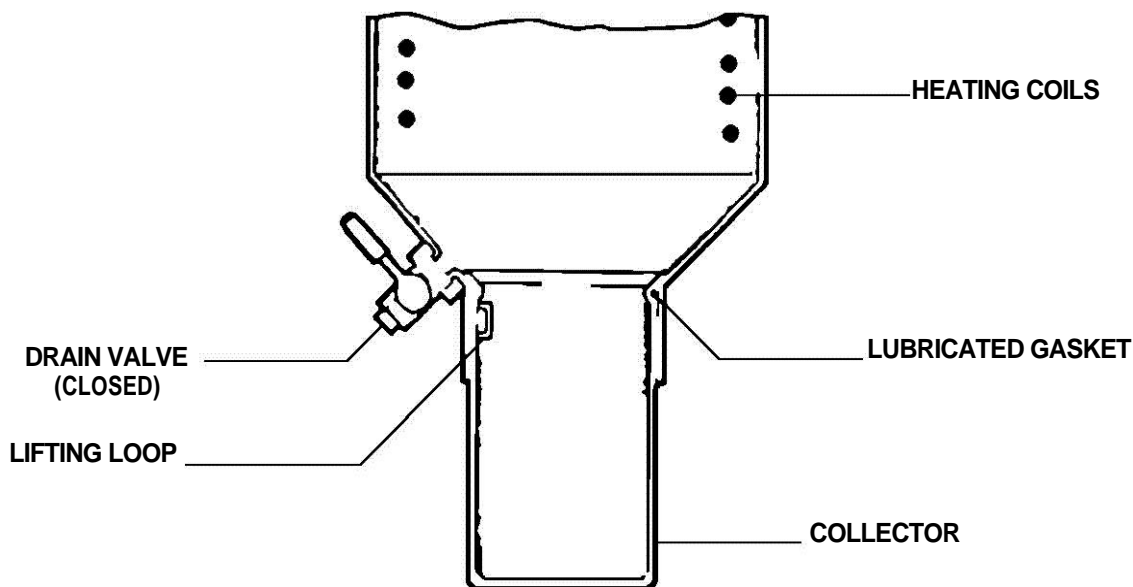

FIGURE 4
3. **CHECK COLLECTOR AND DRAIN VALVE** - Make sure collector with gasket is seated and drain valve is closed (handle up). (See FIG. 4.) Lubricate lid and collector gasket with cooking oil before placing on fryer.